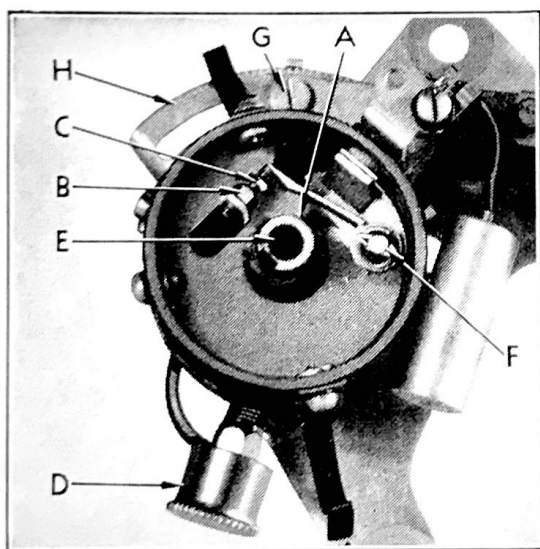
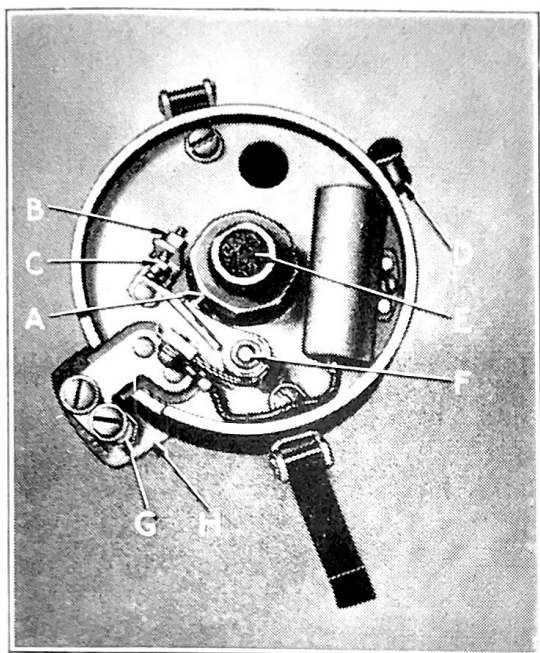

Figure 18
Figure 19
Lubrication—The grease cup (D), Fig. 18, should be turned one complete turn every 2,000 miles. Every 5,000 miles the grease cup should be removed and repacked with high temperature grease. Every 2,000 miles a few drops of light engine oil should be applied to wick (E) at the top of the drive shaft. Also place one drop of light engine oil on breaker point arm stud (F) and apply a light coating of high temperature grease to the cam lobe (A).
Distributor on eight cylinder models is mounted on the right side of the engine near the center. This distributor, Fig. 19, incorporates the automatic governor advance feature.
To adjust gap, remove distributor cap, crank engine until fibre block of the breaker point arm, Fig. 18, for SIX cylinder engines and Fig. 19, on EIGHT cylinder models, is on the highest point of the cam (A). Then loosen lock nut (B) and turn adjusting screw (C) until the proper gap is obtained. Tighten lock nut (B) and re check gap. Breaker points should be clean and smooth and make full contact.
Setting Ignition Timing (6 cylinder models)—The distributor rotation is counter-clockwise. Loosen distributor advance arm screw (G), Fig. 18, and rotate distributor housing counter-clockwise to the limit of the slot in quadrant (H). Remove the central cable from the distributor cap and place the bare end $\frac{1}{8}$ inch from the cylinder head. With the ignition turned on and the pointer on the face of the
Setting Ignition Timing (8 cylinder models)—Distributor rotation is clockwise. Loosen clamp screw (G), Fig. 19, and rotate distributor housing clockwise to the limit of the slot in the clamping plate (H). Remove the central cable from the distributor cap and place the bare end $\frac{1}{8}$ inch from the intake manifold. With the ignition on and the pointer on the face of the rear engine support plate in line with the U.D.C. 1-8 / mark on the flywheel, rotate the distributor housing counter-clockwise slowly just until a spark jumps from the high tension wire to the manifold. Tighten clamp screw (G), replace central cable in cap and replace cap on distributor.
To determine proper spark timing for these conditions, with engine at normal operating temperature, accelerate with full throttle from 8 miles per hour in high gear. A "ping" should be noted at 10 to 15 miles per hour. If no "ping" is heard, loosen the advance diaphragm screw (G), Fig. 18, on 6 cylinder models and rotate distributor body in a clockwise rotation one graduation mark at a time until the "ping" is heard. On 8 cylinder models, loosen clamp screw (G), Fig. 19, and rotate distributor body counter-clockwise one graduation mark at a time until "ping" is heard. **Under no circumstances, however, should the pointer on the rear engine support be more than 1 inch before the U.D.C. 1-6 / mark on 6 cylinder flywheels and $\frac{3}{4}$ inch before the U.D.C. 1-8 / mark on 8 cylinder flywheels.**